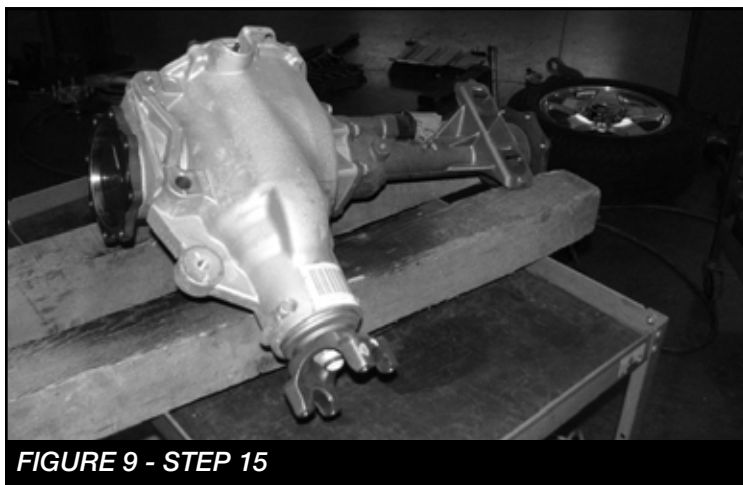

FIGURE 9 - STEP 15
15. Remove the differential housing assembly from vehicle. **SEE FIGURE 9**